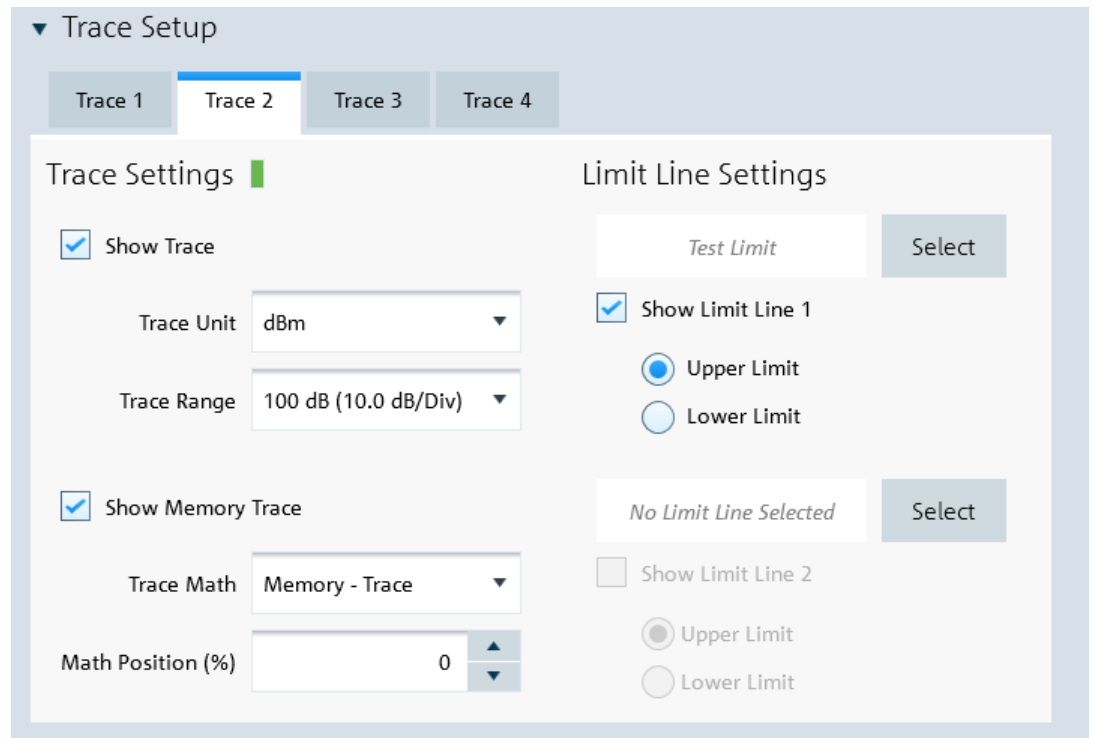

Figure 5-3: Trace setup
- Each trace is represented with a different trace color. If there is more than one trace in the same trace window, you can go to the individual trace tab to disable or enable the "Show Trace" checkbox to set the trace display. See Figure 5-3.